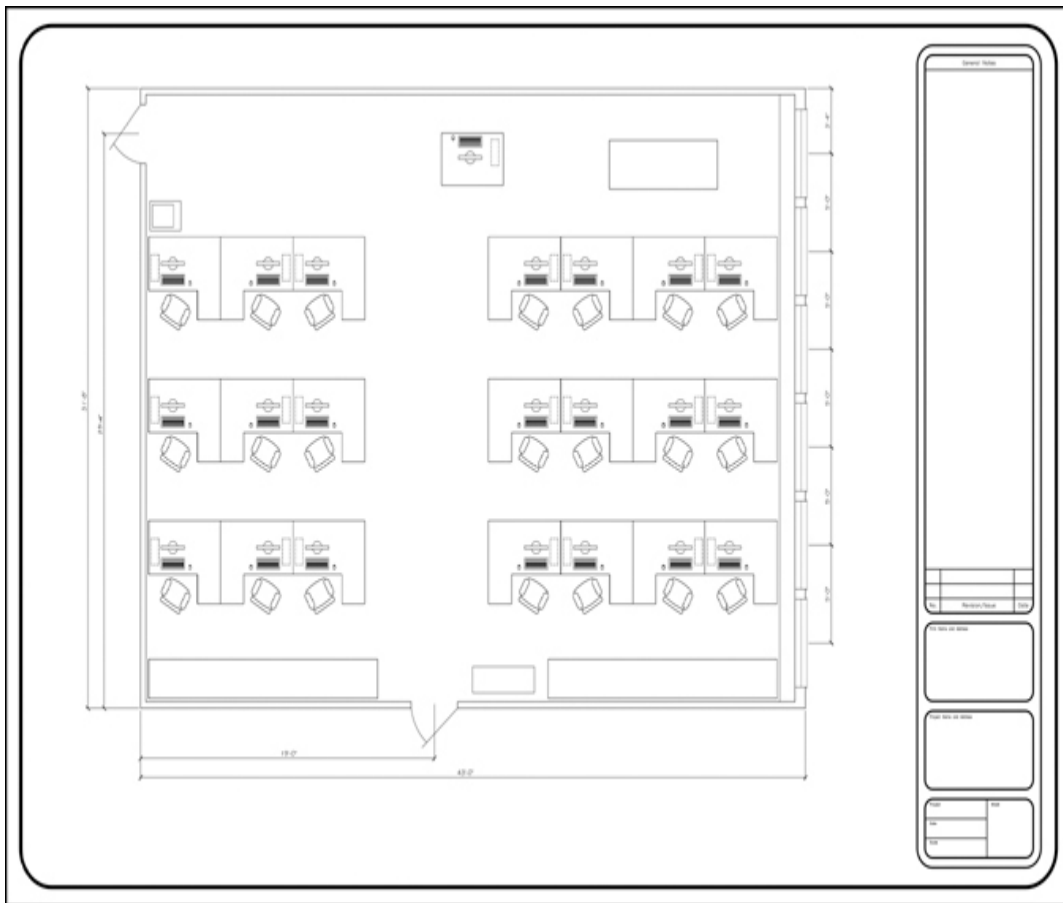

Figure 14-48
5. **Zoom Extents** so the drawing fills the viewport, and set the **Viewport Scale** to **1/2" = 1'-0"**. Position the drawing within the viewport so it matches Figure 14-48.